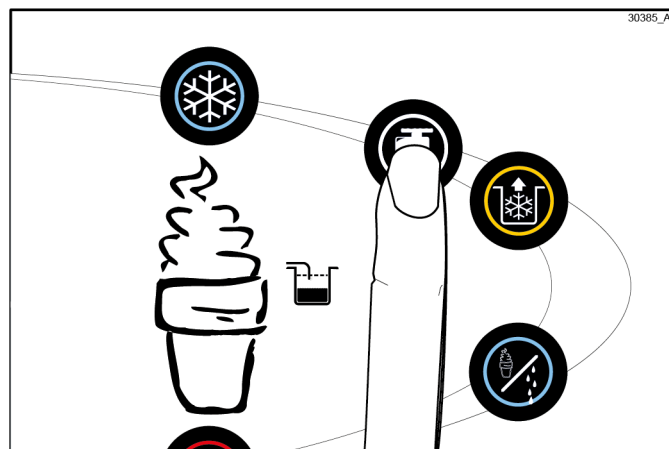

Figure 6-54
2. With a pail beneath the door spouts, raise the prime plug (soft serve side only) and press the Wash symbol . (See Figure 6-54.)